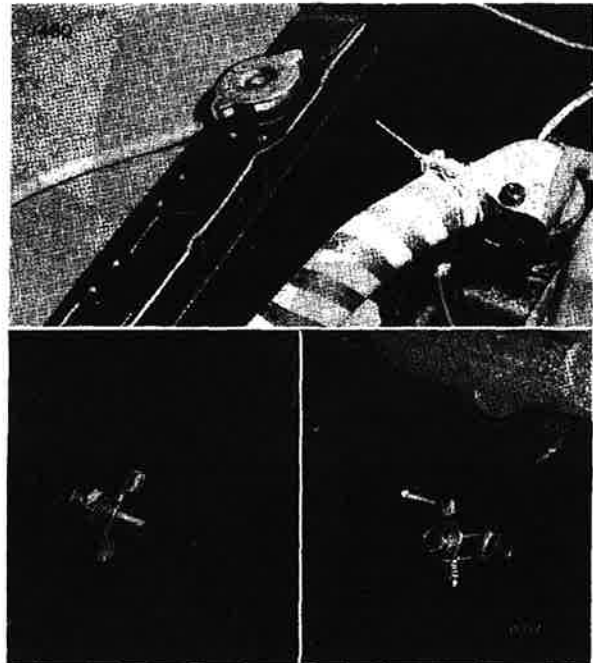

Fig. 35 (left)      Fig. 36 (upper)      Fig. 37 (right)
To drain the system, move the heat control (22) Fig. 2, to the hot position, remove the radiator filler cap (Fig. 36) and open the tap at the rear right-hand side of the cylinder block (Fig. 37) and the tap at the bottom of the radiator (Fig. 35).